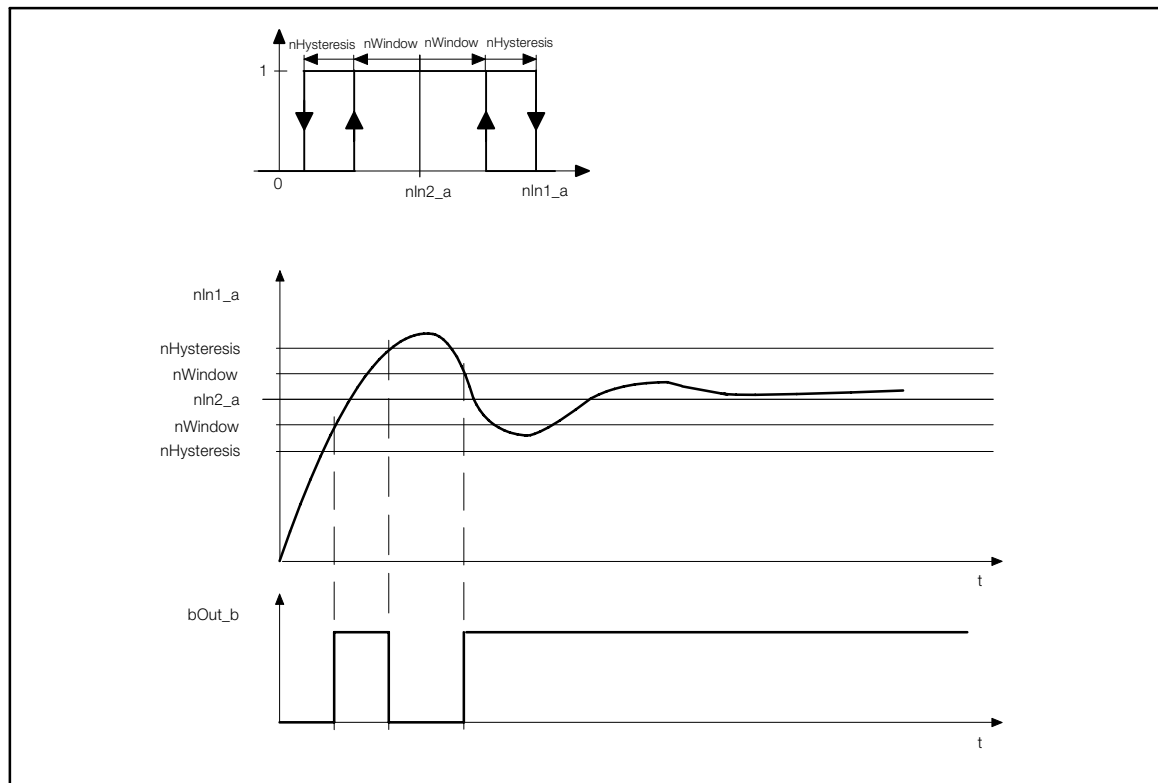

Fig. 2-12
- The exact function can be seen in the diagram. (Fig. 2-12)